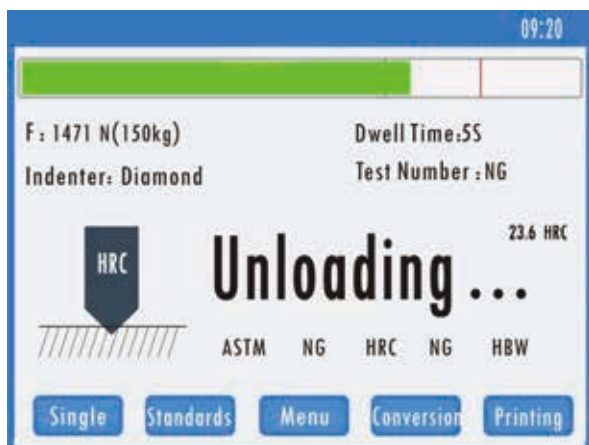
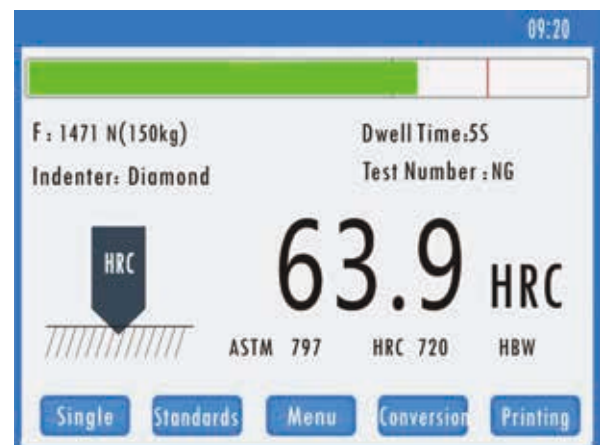

Fig 5-15 Unloading
Fig 5-16 Hardness Result
5.3.5 The motor will start, initiating the automatic loading of the main test force. The dwell time of the total test is 5 seconds, the screen will begin counting backwards until the dwell time reaches 0 seconds (see Fig 5-15). The instrument will automatically unload the main test force; then it will keep the initial test force. When the buzzer sounds, the hardness value will be displayed on the screen, see Fig 5-16.